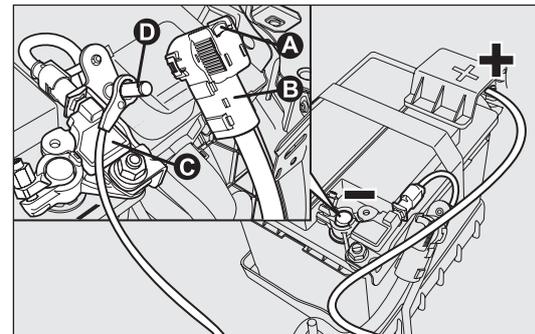

fig. 191
## VERSIONS WITH Start&Stop SYSTEM fig. 191
- press the button A-fig. 191 to remove the connector B from the sensor C monitoring the battery conditions (the latter is on the negative pole of the battery).